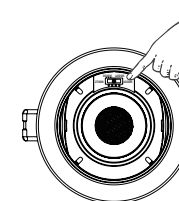

Fig 2.
2. Remove reflector and adjust to required color temperature. (see fig 2)